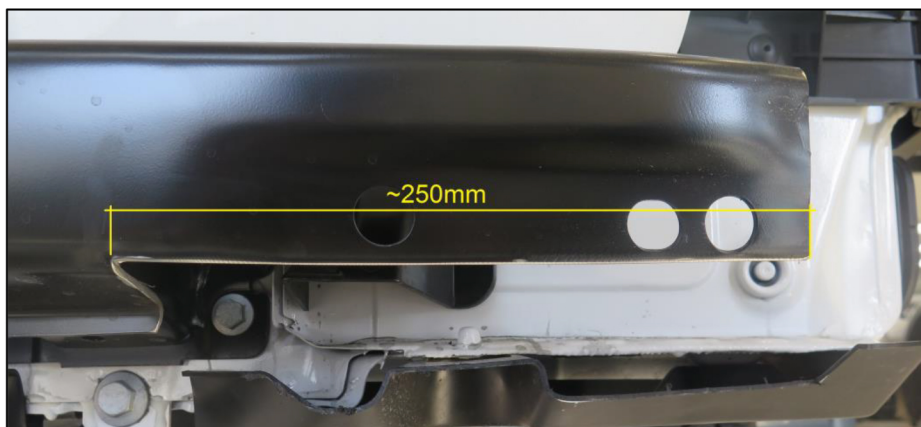

Fig. 1: Completely processed impact beam (right side shown, left side mirror image)
4. Cut the impact beam as shown in fig. 1. Deburr the cut edges carefully and protect the machined areas carefully with suitable, high quality agents against corrosion.